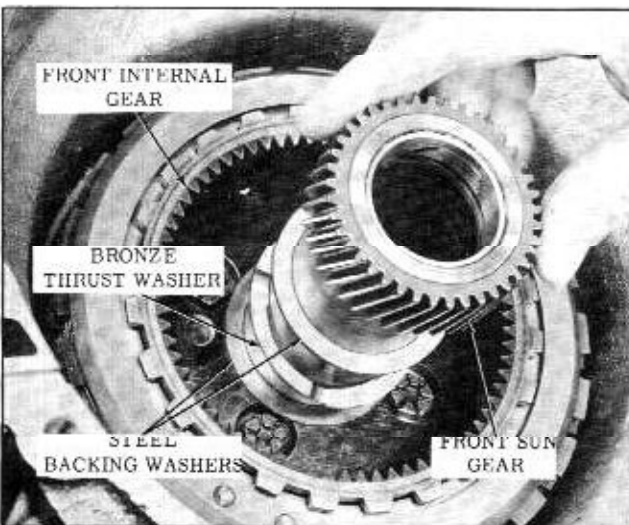

Fig. 3-52 Removing Sun Gear and Washers
51. Remove the front sun gear and front internal gear backing washers and bronze thrust washer. (Fig. 3-52)